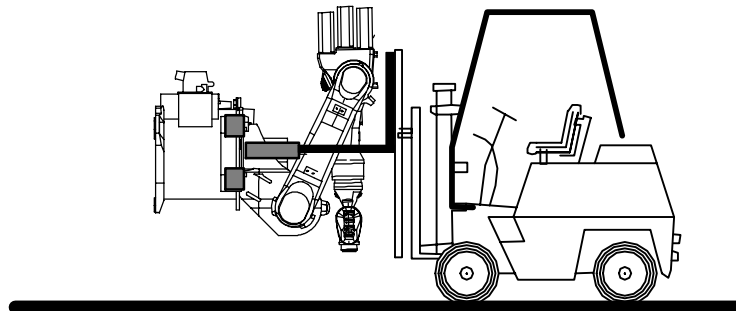

Fig. 46 Transporting wall-mounted manipulators
- With fork lift truck (Fig. 46)